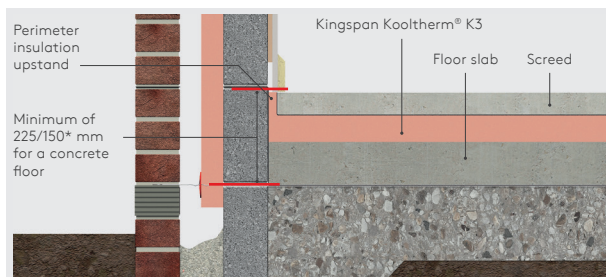
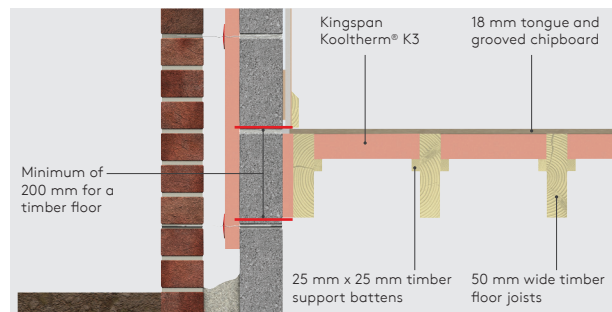

Figure 1: Complete masonry floor insulation
Figure 5: Complete timber floor insulation
For buildings with relatively small ground floor areas (primarily domestic properties), if the ground floor is left uninsulated, the thermal performance will be poor. To enhance the thermal performance, complete insulation of the ground floor should be adopted (Figures 1 & 5).
- In order to minimise cold bridging at the edge of the floor, the distance between the top surface of the floor insulation or perimeter insulation upstand, and the bottom of the wall insulation must be a minimum of 225 / 150* mm (see Figures 1 & 2) for a concrete floor and 200 mm for a suspended timber floor (see Figure 5). The further down the wall insulation extends past the floor insulation, the better the thermal performance of the junction between the wall and the floor.